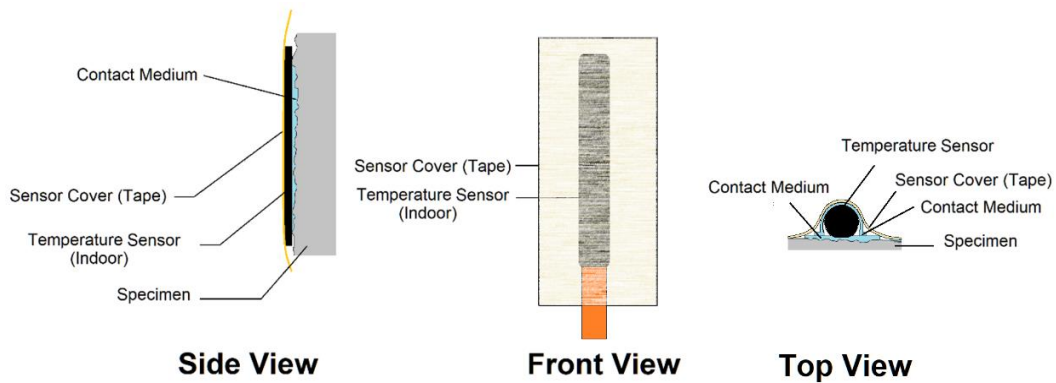

Figure 7- Configuration of the temperature sensor on the surface (QHT-10-HT and QHT-10-TT)
**The temperature probe** is to measure the air or the surface temperature. To measure the air temperature, attach the wire near the tip to a surface to have the tip hanging in the air. To use the temperature sensor for surface measurements (See Fig 7), perfect thermal contact is required. Use the pads to make a bedding on the surface for the sensor probe and cover it with a second layer. Finally. Cover the sensor with a masking tape of the same emissivity as the rest of the measuring surface.